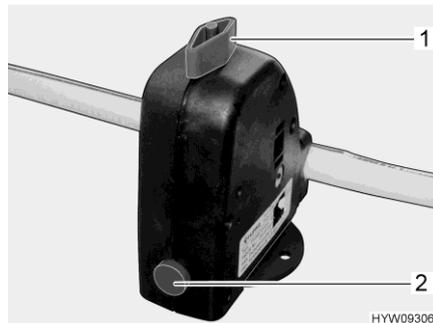

Fig. 126 Safety/drainage valve (Truma)
- Close the safety/drainage valve (Truma). Turn the knob (Fig. 126,1) perpendicular to the safety/drainage valve and push the push button (Fig. 126,3) in.